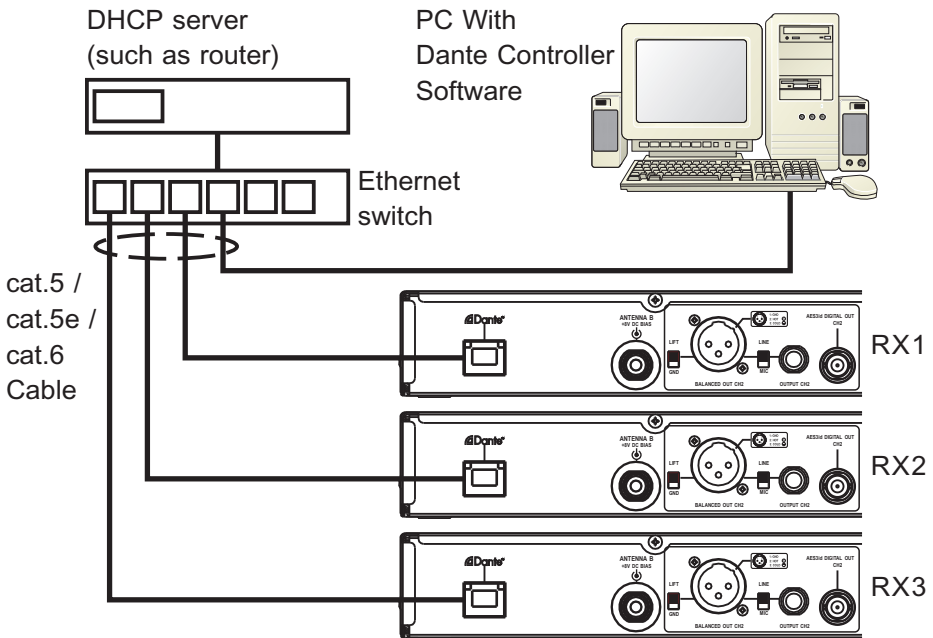

Fig. 28
- (A) Connect MIPRO ACT-828 via Dante port by Cat.5, Cat.5e, or Cat.6 cable with Ethernet switch to construct Dante network, Fig. 28.
- (B) Note : The Ethernet switch should build-in DHCP function or external connected with a DHCP server such as network router.